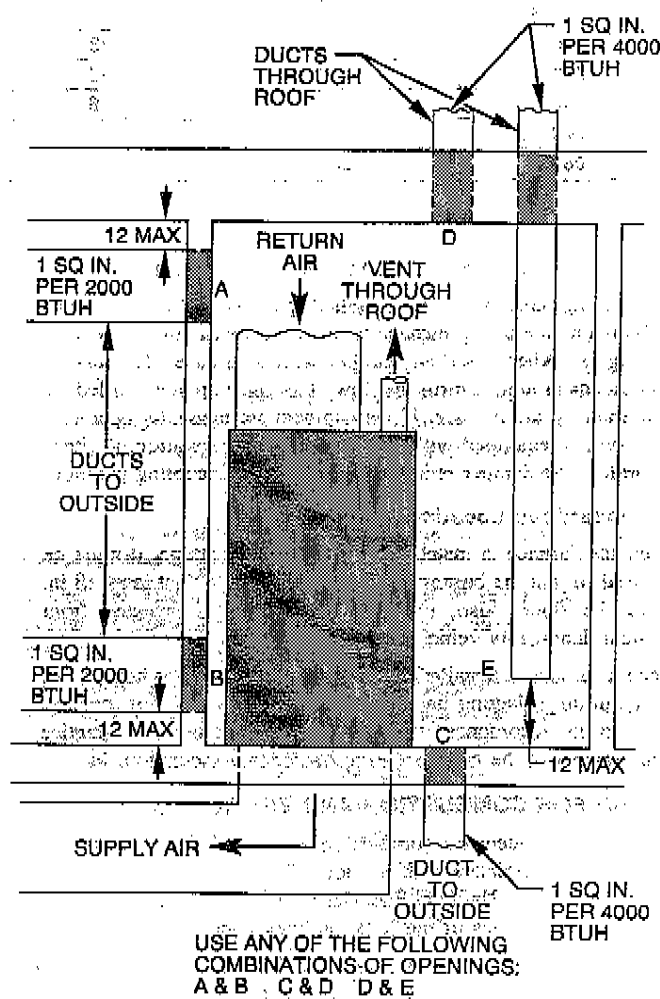

Fig. 3—Air for Combustion and Ventilation (Outside Air)
- If the furnace is installed on a raised platform to provide a return-air plenum, and return air is taken directly from the hallway or space adjacent to the furnace, all air for combustion must come from outdoors. (See Fig. 3.)
- If combustion air is taken from the outdoors through horizontal ducts, the openings and ducts **MUST** have at least 1 square in. of free area per 2000 Btuh of the total input for all equipment within the confined space. (See Fig. 3.)
When ducts are used, they must be of the same cross-sectional area as the free area of the openings to which they connect. The minimum dimension of rectangular ducts must not be less than 3 in. (See Fig. 3.)